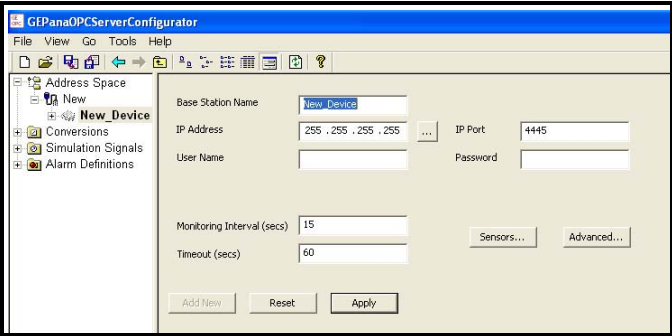

Figure B-7: New Device Option
1. Right-click on the newly created channel. From the New option, click on the RF ValProbe Device selection. The right pane of the window appears similar to Figure B-7 below.